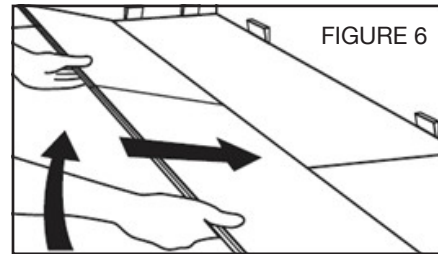

FIGURE 6
1. Once enough of the planks have been racked out, begin installing the planks by fitting the short side of the click system into the long side of the click system. Make sure that the click system is engaged evenly; any gapping can compromise the integrity of the installation (Figure 6–7).